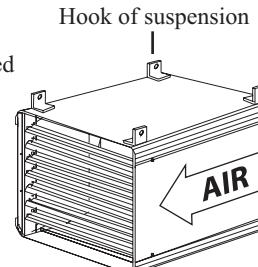

Fig. 4 - MOUNTING OAS 40-60kW
- Make sure that the fan rotates in the correct direction; airflow should be in the direction of the arrow such as indicated on the fig. 4.